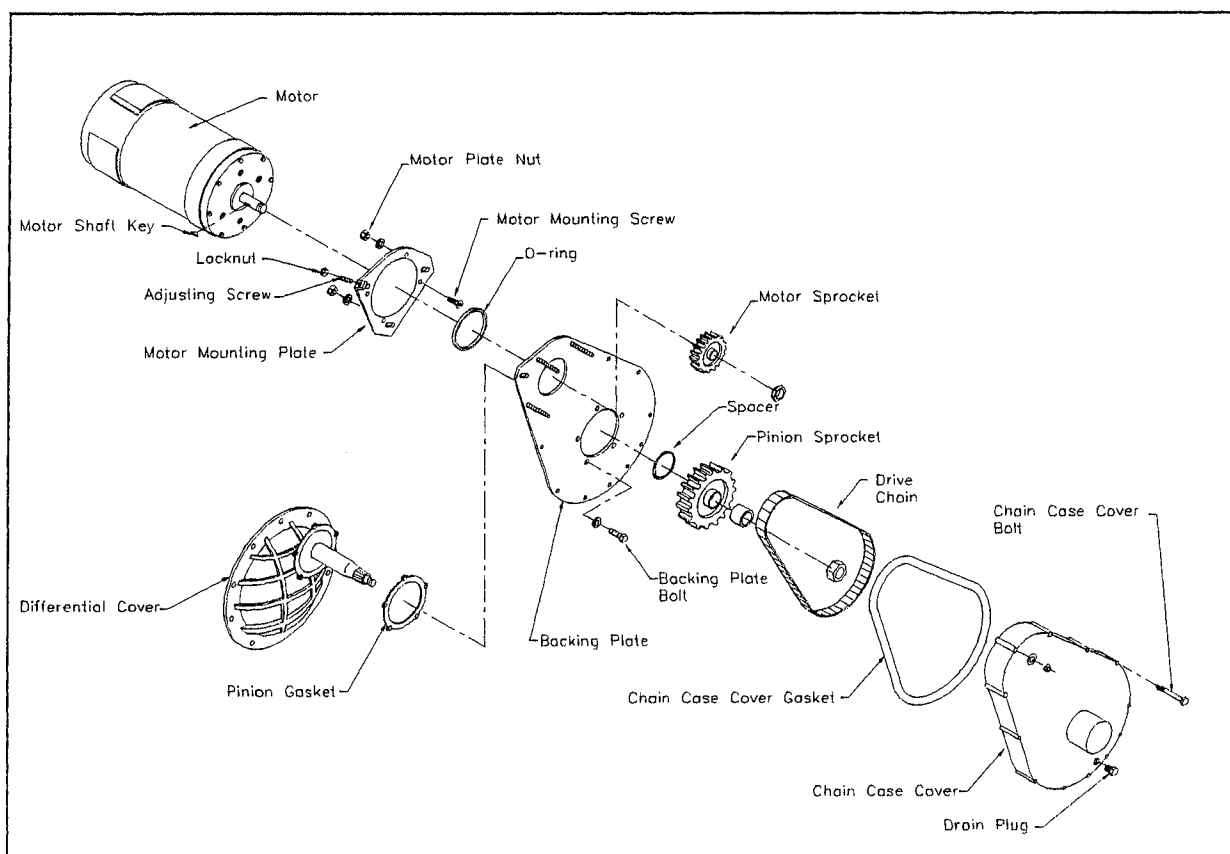

Figure 3-25
- Loosen the nuts on the motor mounting plate just enough to let the motor and plate move freely (see figure 3-25).
- Loosen and remove the 1/2" bolt and the brake shoe assembly components (see figure 3-25).